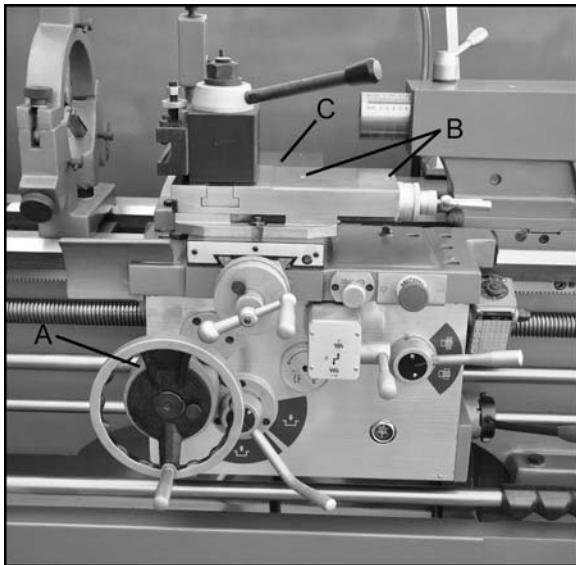

Figure 12
Saddle – Daily lubricate ball oiler (A, Figure 12) on handwheel shaft with SAE 20W.
5. **Compound Rest** – Daily lubricate two ball oilers (B, Figure 12) on top of compound rest with SAE 20W.
6. **Cross Slide** – Daily lubricate one ball oiler (C, Figure 12 – opposite side) with SAE 20W.